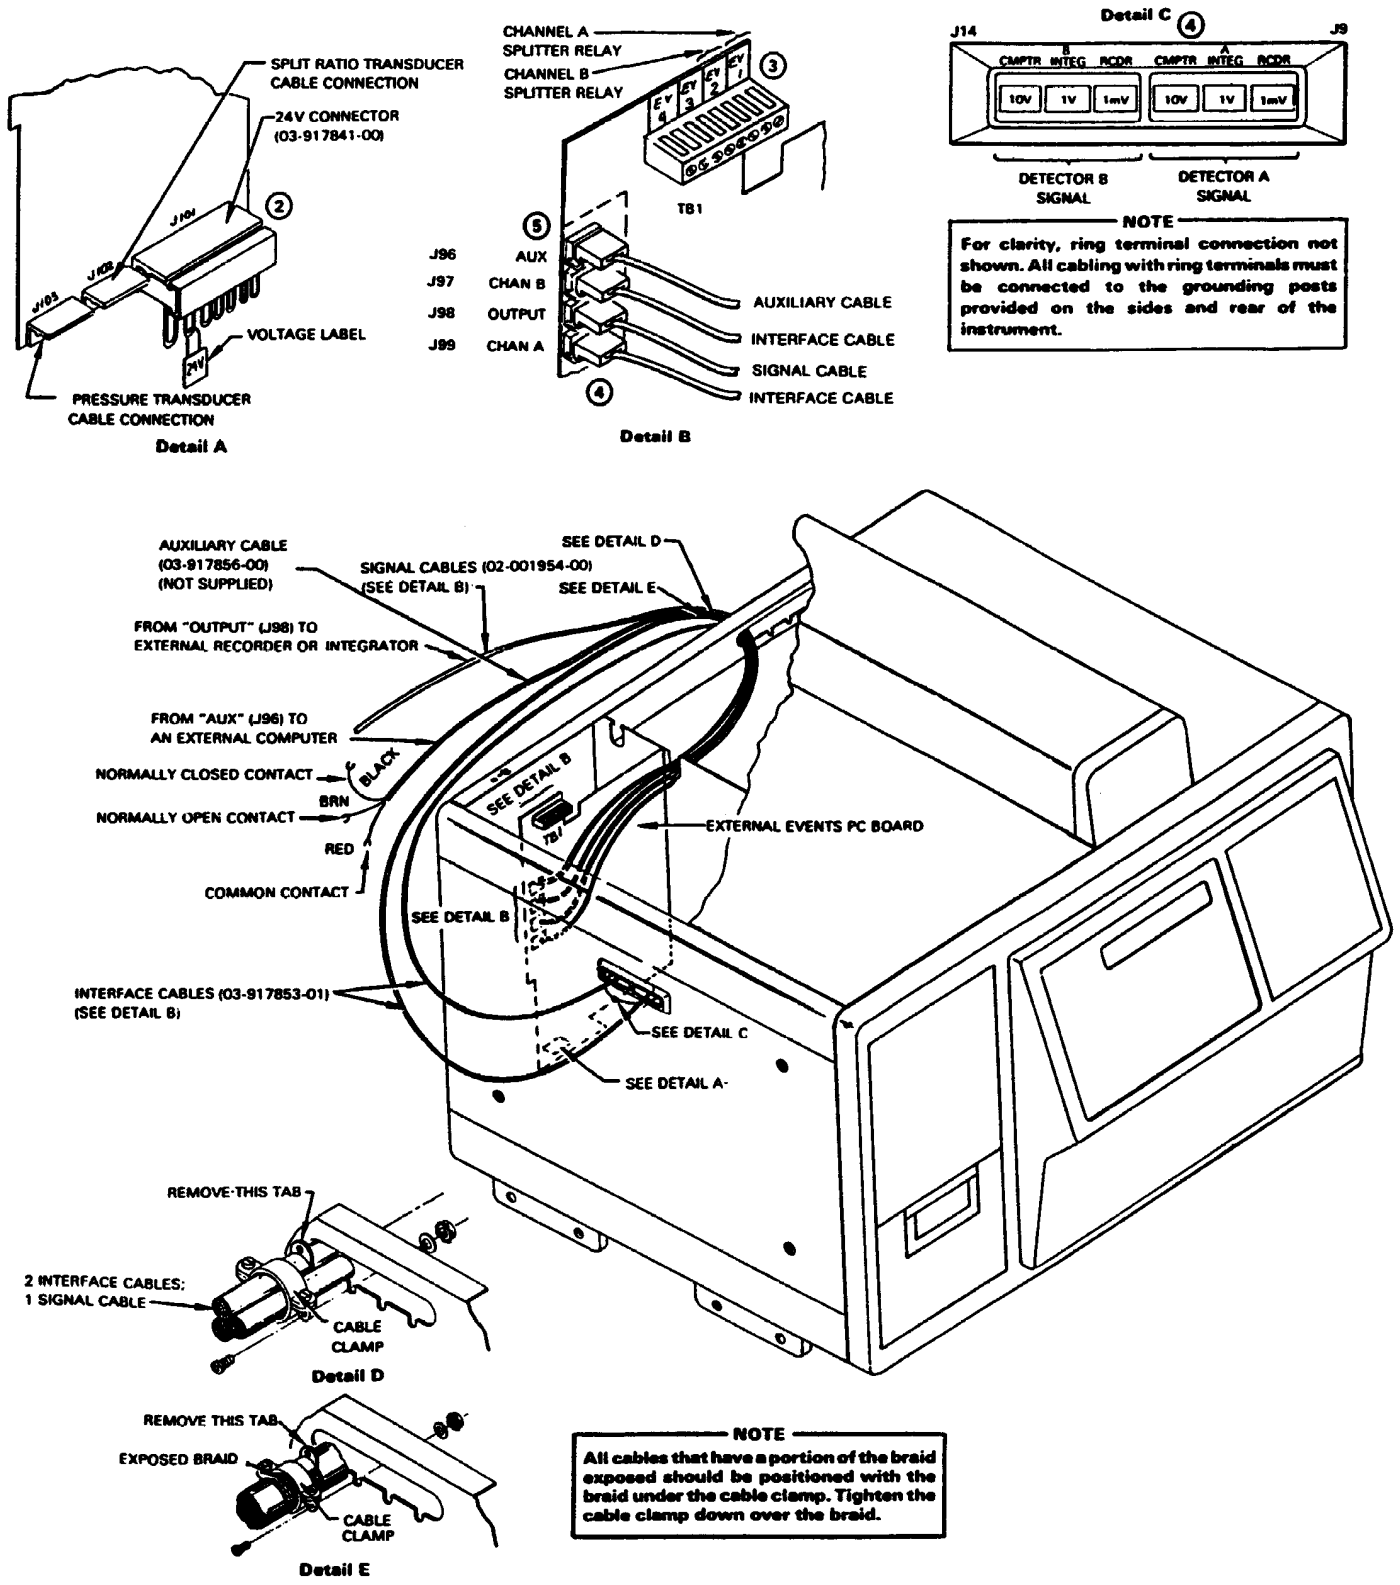

Figure 2 External Event Cabling and Installation (Star 3600 CX GCs)
3. Installing the External Event Wiring: Valve actuators may be wired into any of four external event (EV) positions of TB1 for Star 3600 CX GCs.
4. Signal Switching with External Events: If, for example, you want to switch between the Detector A integrator output (INTEG A, J10) and the Detector B integrator output (INTEG B, J13). Connect an interface cable (03-917853-01) between Detector A Integrator (INTEG A, J10) and Channel A input (CHAN A, J99) on the External Events PCB. Connect a second Interface cable between Detector B integrator (INTEG B, J13) and Channel B input (CHAN B, J97) on the External Events PCB. Then connect a Signal cable (02-001954-00) from the output (J98) on the External Events PCB to the integrator analog input. Figure 2 illustrates this connection. Install the cable clamp to the back of the GC (see Detail D).